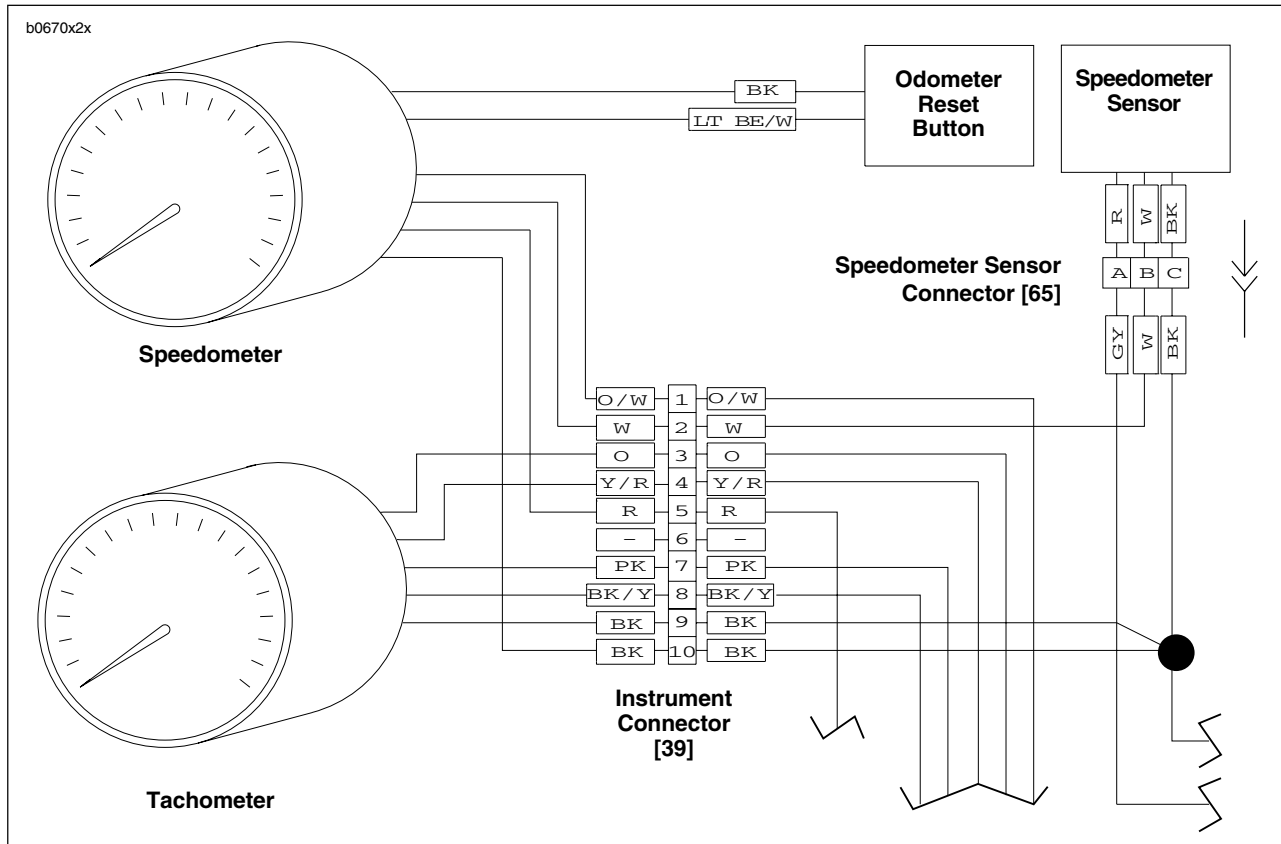

Figure 7-55. Speedometer Sensor Wiring
2. See Figure 7-55. Disconnect 3-place Deutsch connector [65] under battery tray.